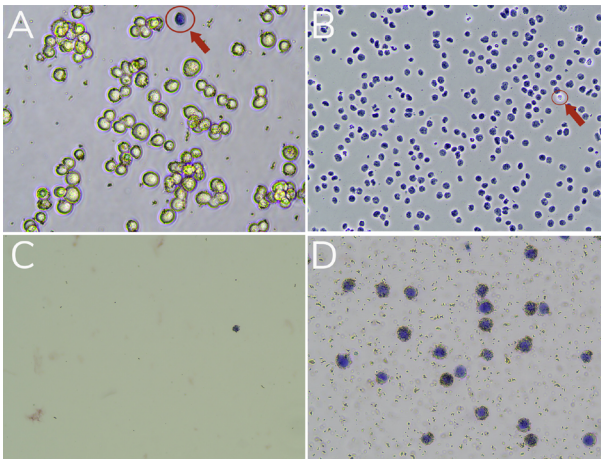

FIGURE 11
3. Transfer 10 μL to a cell counting slide. Obtain cell counts and determine viability using a brightfield/phase microscope or cell counter. See **Figure 11**, next page.
7. Transfer 10 μL nuclei to a new tube. Evaluate integrity using Trypan Blue staining as in Steps 2 & 3 (above). See **Figure 11** for expected results.
13. To samples that were set aside (**unbound fraction**, **sample slurry**), perform Trypan Blue staining as described in Steps 2 & 3. See **Figure 11** for results.